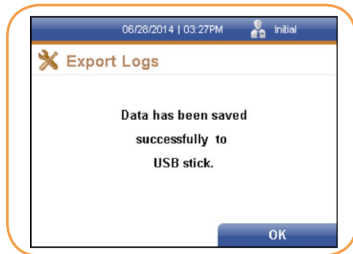

FIGURE 126
4. A window confirming that the data has been successfully saved to a USB stick is displayed (Figure 126).